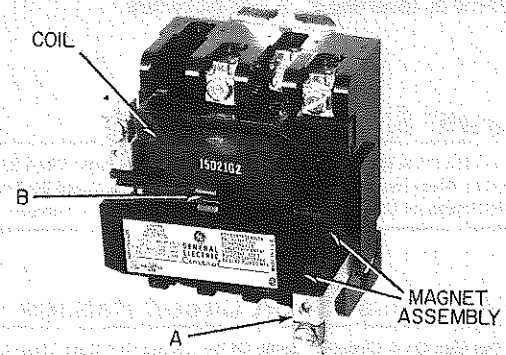

Figure 1. 30 ampere lighting contactor, CR360L.
1. Press against coil while pulling slightly on coil retainers (A—Fig.1), and move retainers away from coil.
2. Pull one end of spring clip (B—Fig. 1) forward and slide out of slot.
1. Press against coil while pulling slightly on coil retainer (A--Fig. 1), and move retainer away from coil.